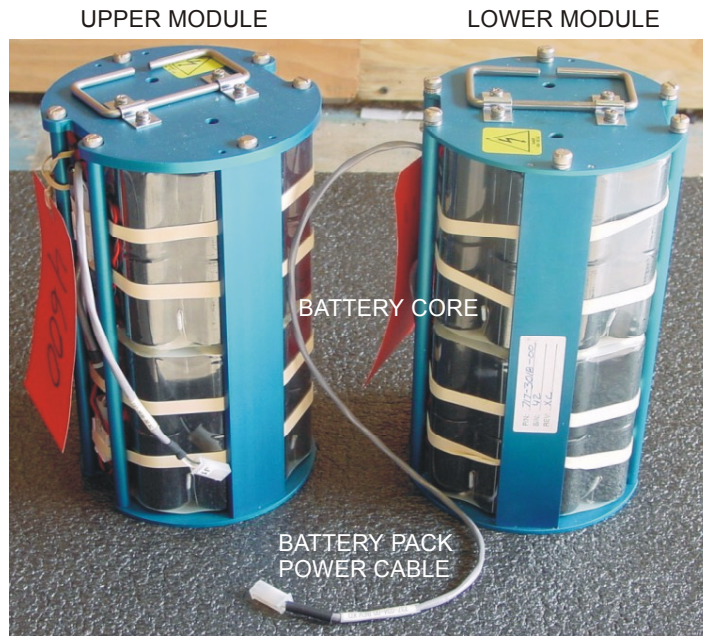

Figure 7. Battery Pack Modules
- e. Slide out the used battery cores (Figure 7, page 14).